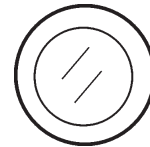

Figure 42. Pre-Heat Button
- Press and hold the **pre-heat button** (Figure 42) for at least 5 seconds to warm the engine glow plugs.